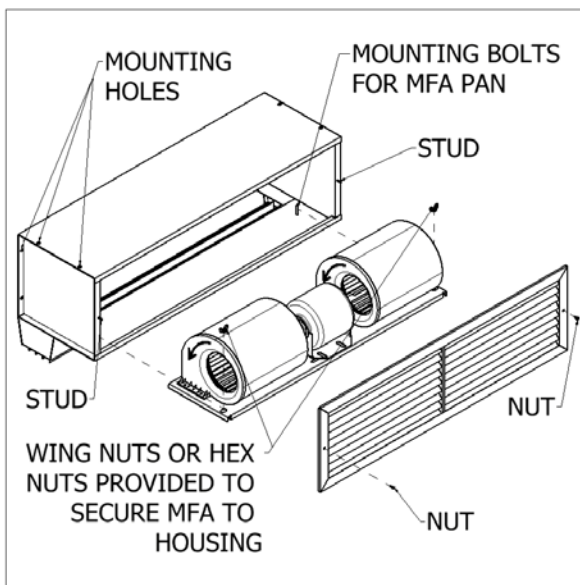

FIG. 2
1. Once the housing is installed over the opening, the Motor Fan Assembly (MFA) must be re-placed and securely fastened. For products with the MFA shipped loose, wing nuts or hex nuts are provided inside the unit (FIG. 2). For heated MFA installation, reference **Heated Products Supplement**.
of the 3 phase power or motor leads and the motor will rotate the opposite direction. Make sure all motors are turning in the same and proper direction. (FIG. 2)